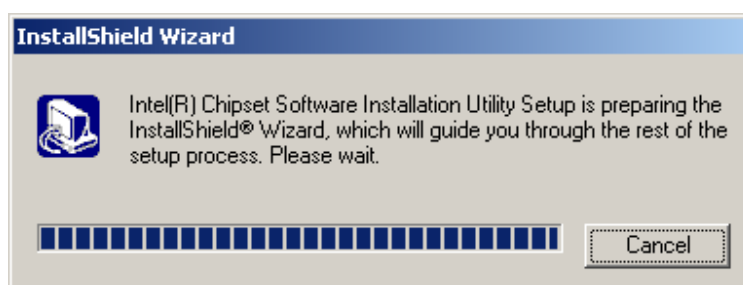

Figure 6-1: InstallShield Wizard Preparation Screen
Step 2: The “InstallShield Wizard Preparation Screen” in **Figure 6-1** appears.